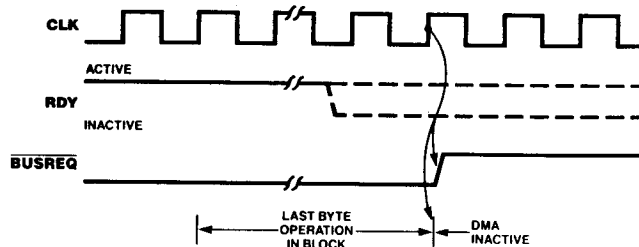

Figure 17. Bus Release at End of Block (Burst and Continuous Modes)
**Bus Release at End of Block.** In Burst and Continuous modes, an end of block causes  $\overline{\text{BUSREQ}}$  to go High, usually on the same rising edge of CLK in which the DMA completes the transfer of the data block (Figure 17). The last byte in the block is transferred even if RDY goes inactive before completion of the last byte transfer.